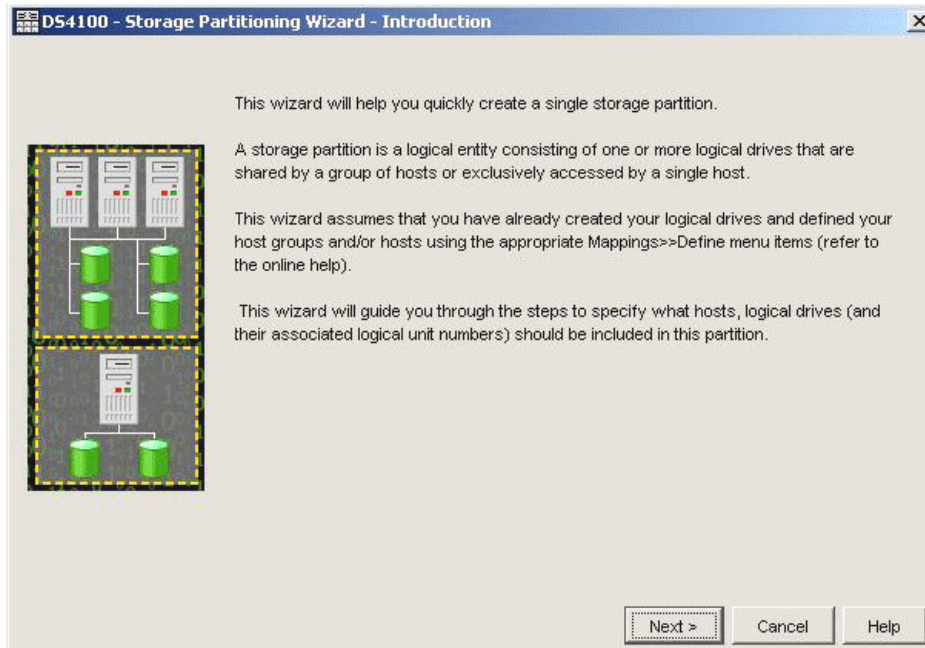

Figure 9-55 Storage Partitioning Wizard window
24. Select **Create New Storage Partitions**. You will see a window similar to Figure 9-55.